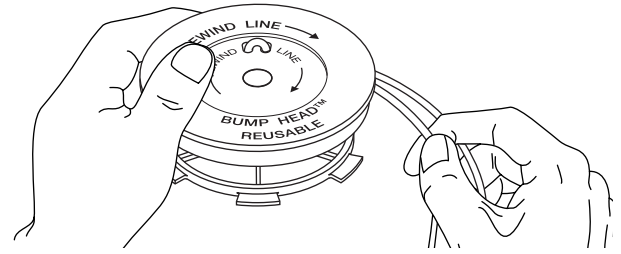

Fig. 17
7. Wind the lines in tight even layers, onto the reel (Fig. 17). Wind the line in the direction indicated on the inner reel. Place your index finger between the two lines to stop the lines from overlapping. Do not overlap the ends of the line. Proceed to step 11.
1. Remove the four (4) screws securing the air filter/muffler cover (Fig. 17). Use a T20 Torx bit screwdriver.